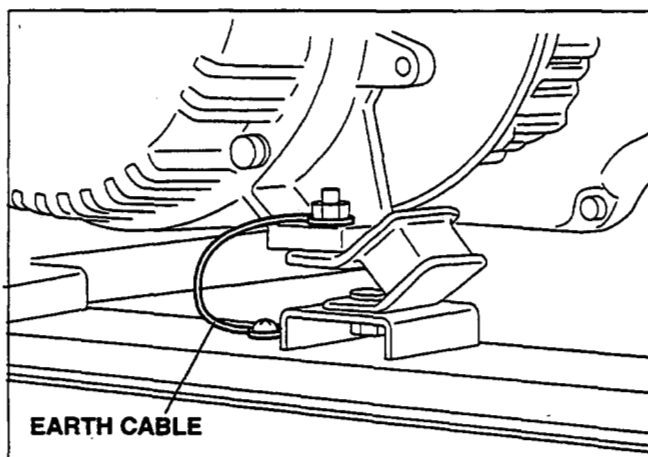

Fig. 10-28
(6) Fasten the other earth cable with 5 mm terminal to the unpainted bolt hole on the frame. (See Fig.10-28.)